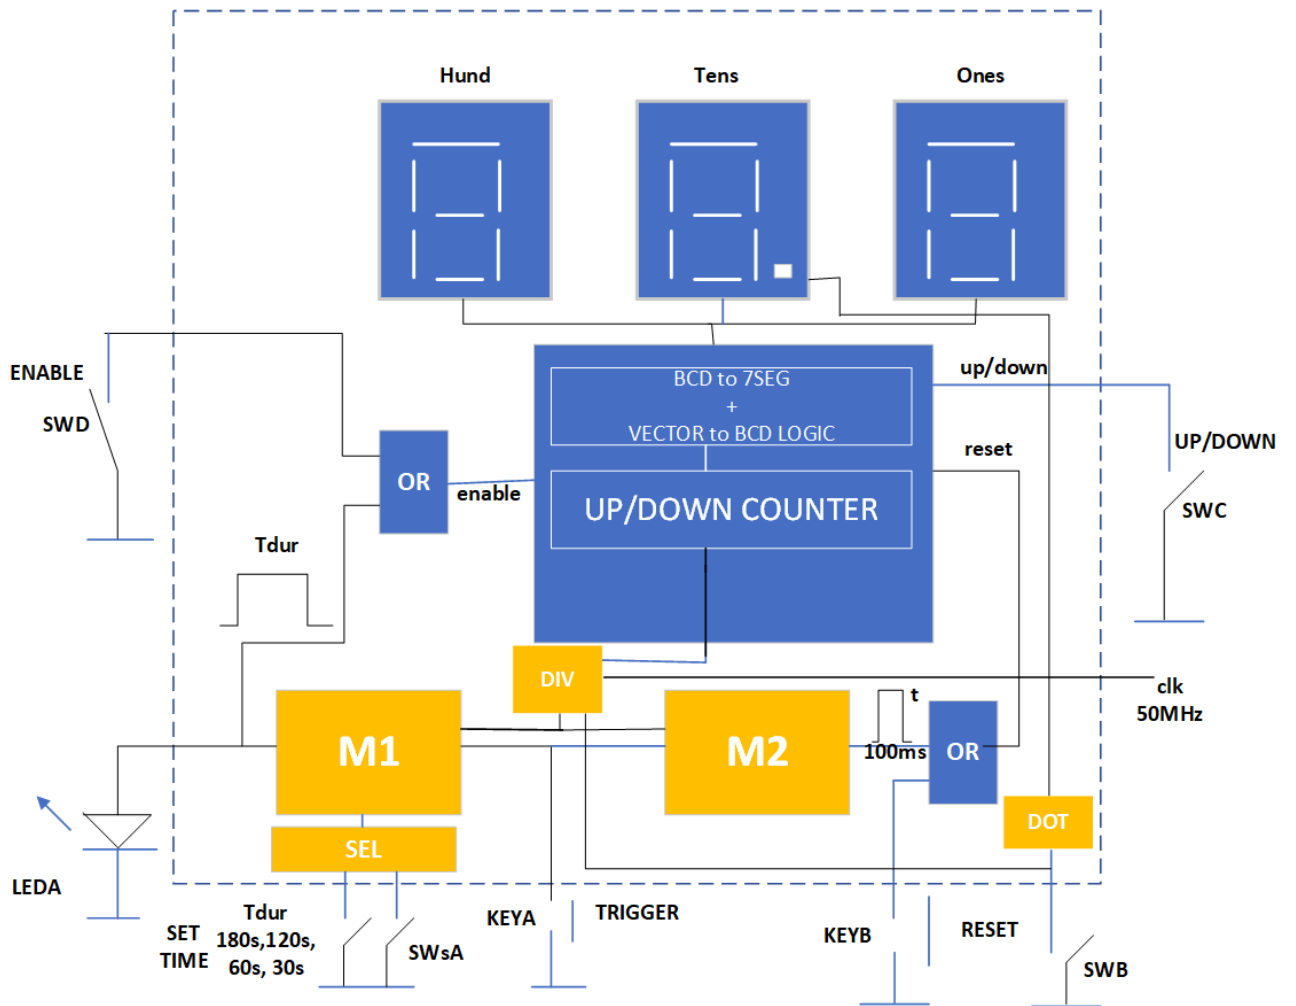

Figure 1: Architecture of FPGA UP/Down counter with Timer logic
Design and implement a digital **UP–DOWN counter with a timer function** on the DE2-70 FPGA board, Fig. 1. Use the board's **switches (SW)** and **keys (KEY)** to control the operation according to the following specifications.